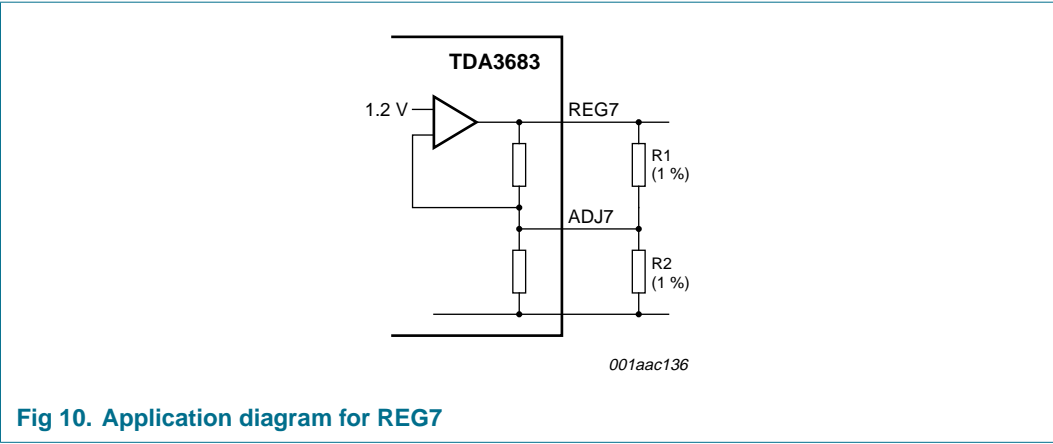

Fig 10. Application diagram for REG7
- The output voltage of regulator 7 can be adjusted between 2.4 V and 10 V using two external resistors (R1 and R2); see Figure 10. The following equation can be used for global calculations to determine the output voltage at a given value of R1 and R2: